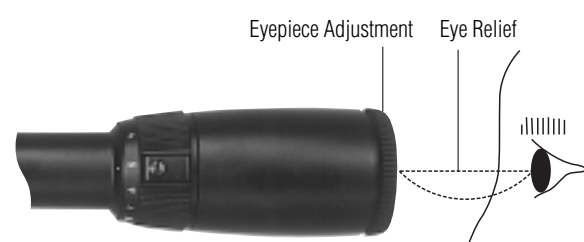
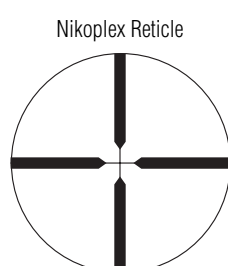

Fig. 3-1
Fig. 3-2
(1) Focusing
- Look through the eyepiece with your eye positioned about 10cm (4 in) away from the eyepiece lens (Fig. 3-1), and you will see the Nikoplex reticle (Fig. 3-2), or the BDC200. Be sure your eye is positioned within proper alignment and proper eye relief otherwise the view will "black out".
(2) Magnification